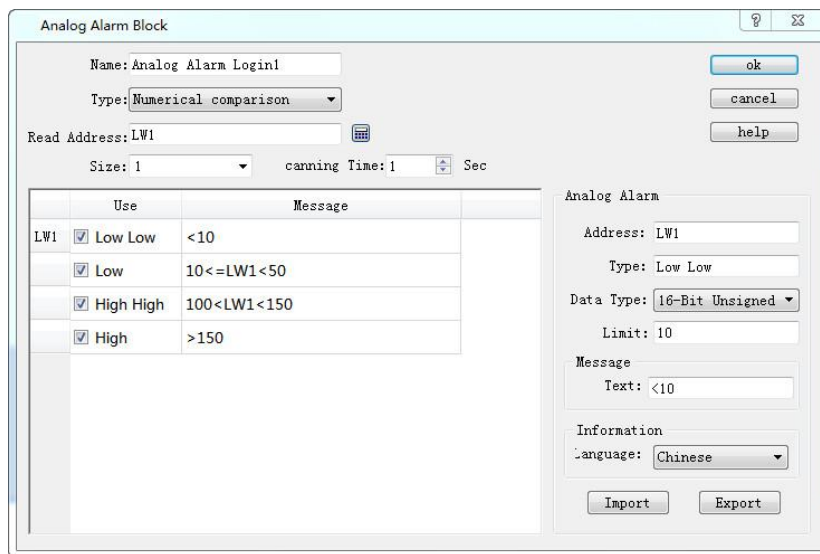

Figure 7-28 Analog Alarm Login dialog box
Open the analog alarm settings dialog box, as shown in Figure 7-28:
- Select the total number of alarms in the "Size" option, which means the total number of addresses; data type decides the way to read address. Each address value is set firstly as the 16-bit data type and it is continuous. But the data type can be changed. As shown in Figure 7-28, the LW1 address chooses a 32-bit positive integer while LW3 and LW4 values are 16-bit positive integers. Therefore, when 32-bit data is selected for an address, the later address value to be read is added by 2 on the basis of the former address value; and if the 16-bit data type is selected, the later address value to be read is the former value plus 1.
- Click each item to input a value in the "Limit" box on the right; then enter the text information (alarm content) in the "Text" box. Here assume that the message is as shown in Figure 7-28: each address value can be classified into one of four ranges-- Low, Low Low, High, High High.